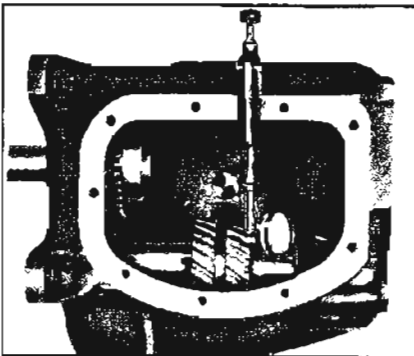

Figure 4-64—Checking Countergear End Play
7. Attach a dial indicator as shown in Figure 4-64, and check the end play of the countergear. End play must not be more than .025".